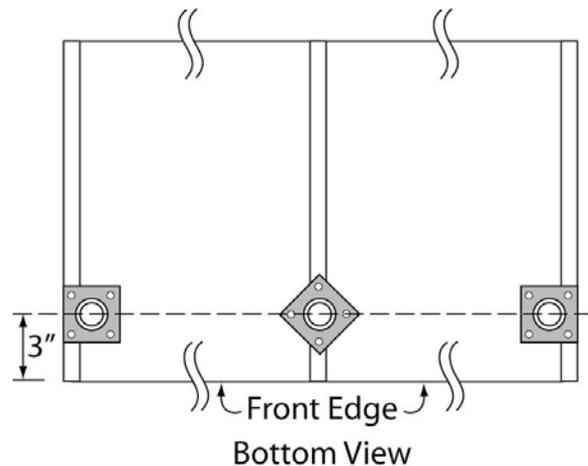

Fig. 3
- Install all leg flanges under all tall and base 24" cabinet panels using the screws provided. (See Fig. 3.) Flanges should be positioned on 3" centers measured back from the front edge of panels and should be flush to either the left or right outside of a panel section. (Feet flanges require four total screws. Fasten two of the screws into the bottom edge of outside panels and you will fasten the remaining two screws through the flange into the bottom fixed shelf later in assembly.) Foot flanges **MUST** be installed under both the vertical panel and the shelf as shown.